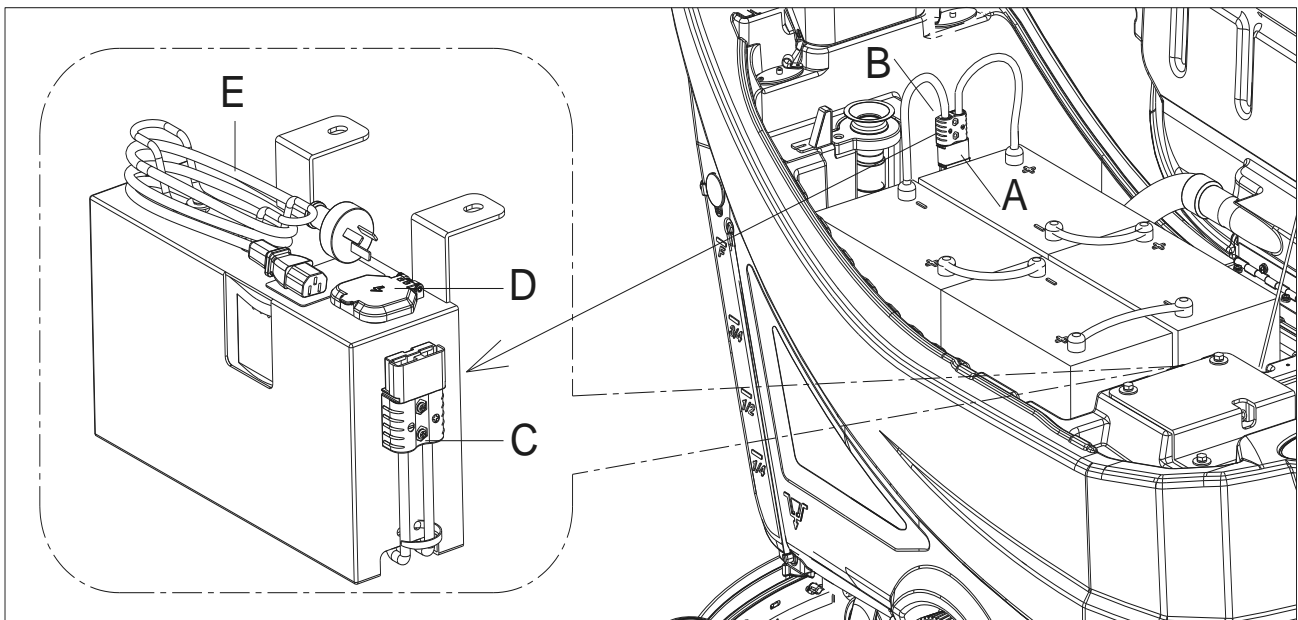

Figure 22
1. Change the battery connections (B, Figure 22) from (A) to (C).
2. Connect the battery charging cable (E) to (D) and connect the other end of the cable to the electrical outlet.
3. When the battery charging is completed, the green warning light on the charger turns on. Disconnect the battery charger cable (E) and Change the battery connections (B) from (C) to (A).